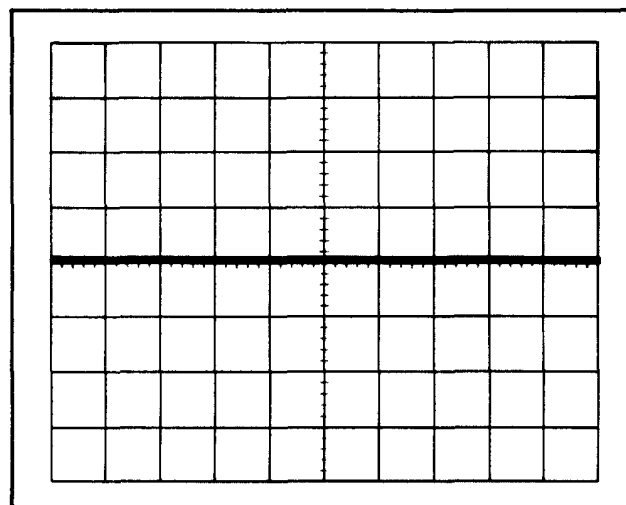

Fig. 5-9. Typical CRT display showing correct common-mode rejection ratio.
- d. CHECK—CRT display 0.1 division or less (100:1 or greater; see Fig. 5-9).